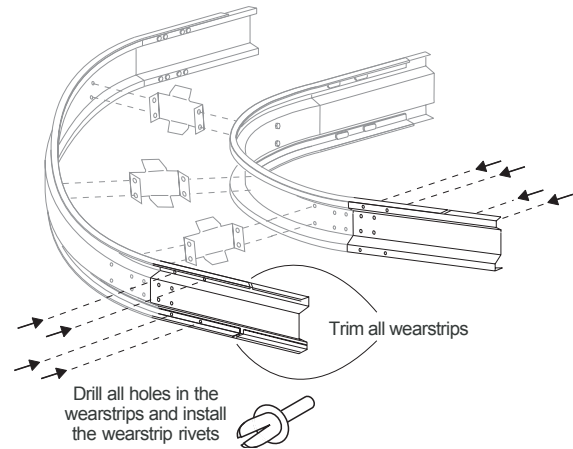

Figure 11
- Trim the ends of the horizontal bend wearstrips to form the proper gap and angle in relation to the ends of the straight section wearstrips. Drill all the holes for the wearstrip rivets in the wearstrips. Then install the wearstrip rivets to finish the job. Refer to *Figure 11*.